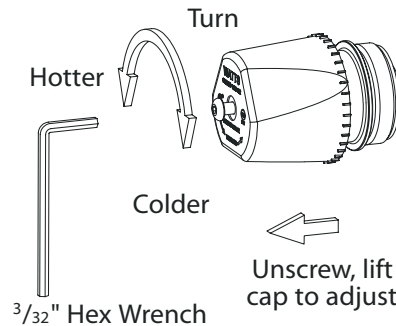

Figure 9.5.0 - Temperature Adjustment
3. To adjust the setting of the valve, loosen locking cap with hex wrench, see figure 9.5.0. Cap must be lifted 1/4" to adjust temperature. To increase the temperature, turn counterclockwise. To decrease temperature, turn clockwise